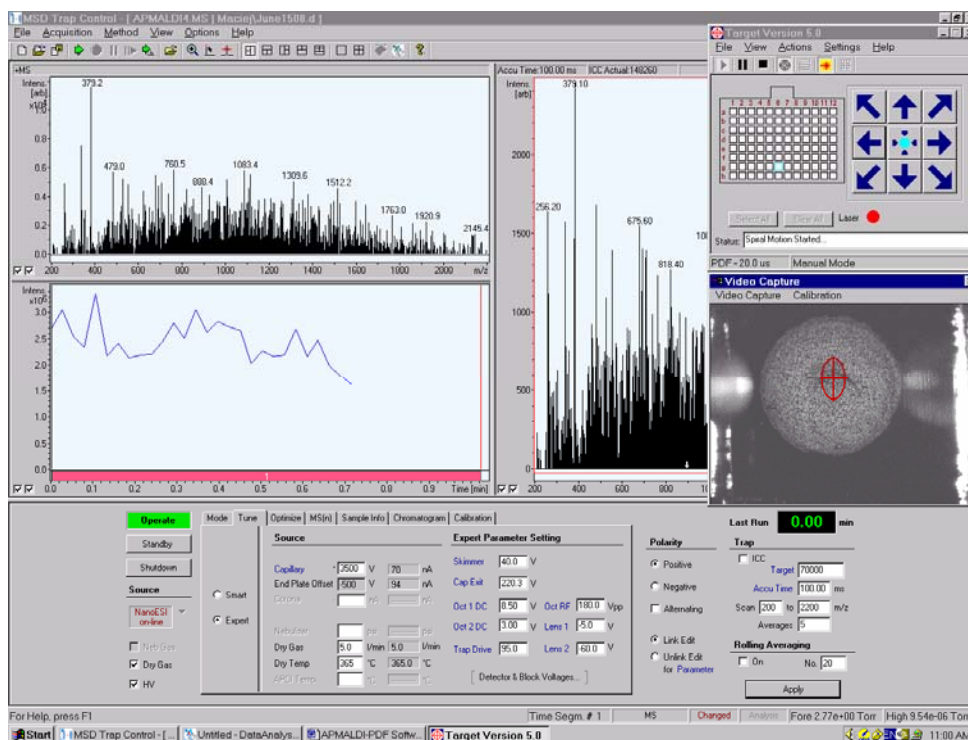

Fig. 7-17 Operation of Target software on the LC/MSD instrument computer.
- Fig. 7-17 represents a screen copy made during an AP/MALDI spectrum measurement of α -CHCA matrix. You can easily switch between the *MSD Trap Control* and *TARGET* programs to operate both the LC/MSD and AP/MALDI PDF source from the same computer. Or alternatively, separate computers can be used to run *TARGET* software and operate AP/MALDI.